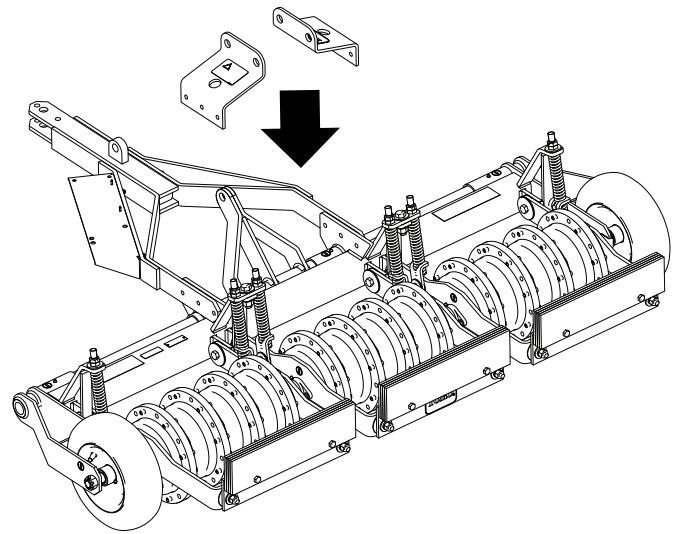

Figure 5
3. Align the brackets on the aerator as shown in Figure 5.